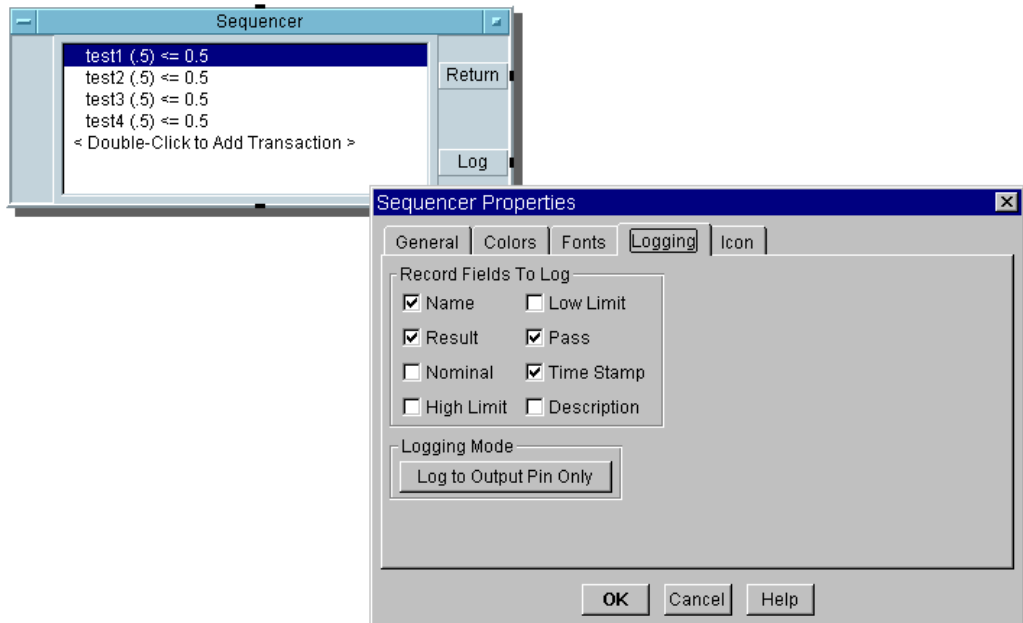

Figure A-34. Add a Time Stamp to the Logging Record
- **Adding a Time Stamp:** To add a time stamp, open the Sequencer object menu and select `Properties ⇒ Logging tab` to check `Record Fields to Log ⇒ Time Stamp`. Figure A-34 shows the `Properties ⇒ Logging tab` dialog.